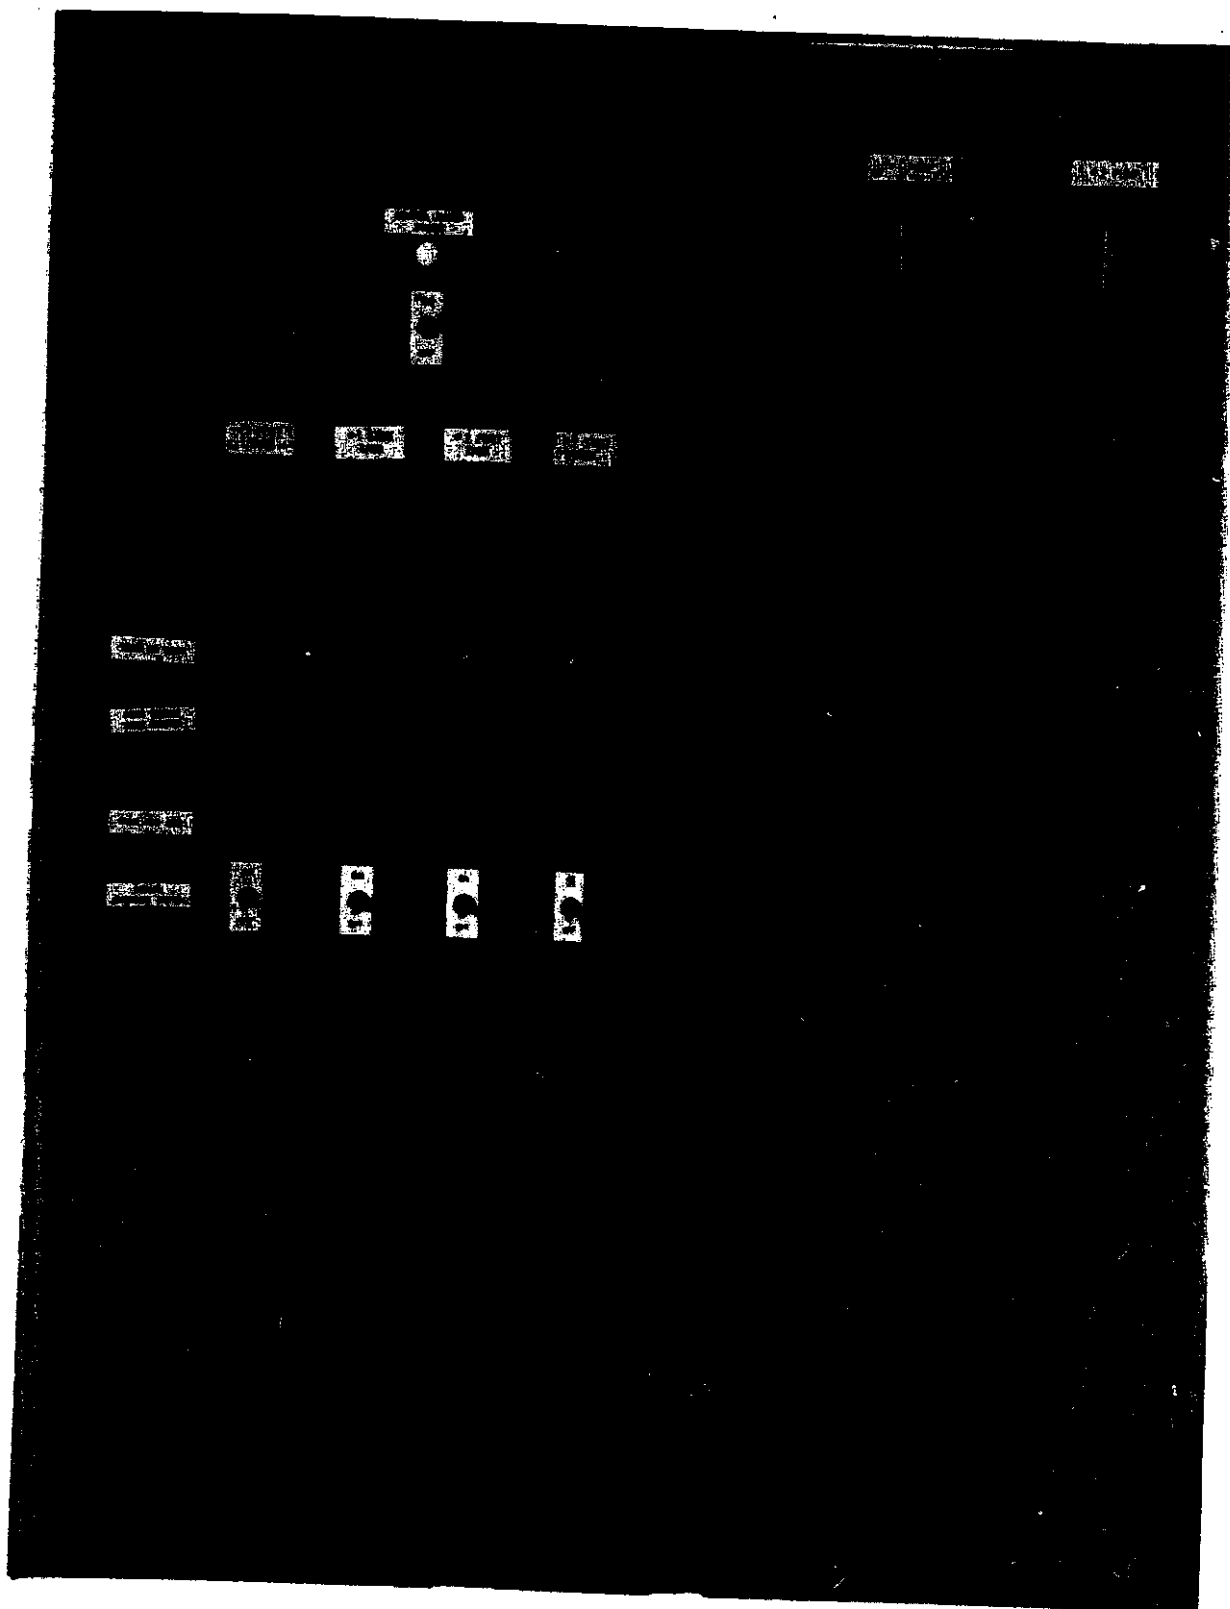

FIGURE 2-12
c. Lights are provided on the front door of the control panel to indicate which tank has caused the alarm to sound and the type of alarm (e.g., high or low-level alarm). The layout of these lights is shown in Figure 2-12. The upper row of red lights indicate 90% FULL and the lower row of red lights indicate 10% FULL. The middle row of amber lights show which tank has triggered the alarm. Switches are provided to silence the horn and to override the pump cut-off circuit.